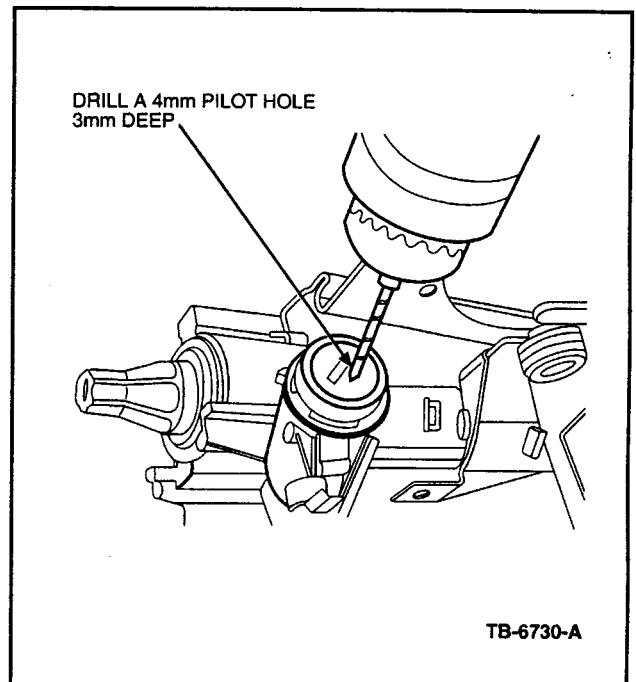

Figure 4 - Article 02-18-2
5. Drill a 4mm pilot hole 3mm deep. Then drill a 10mm hole 35mm deep (mark 35mm on drill bit) (Figures 4, 5, 6, and 7).